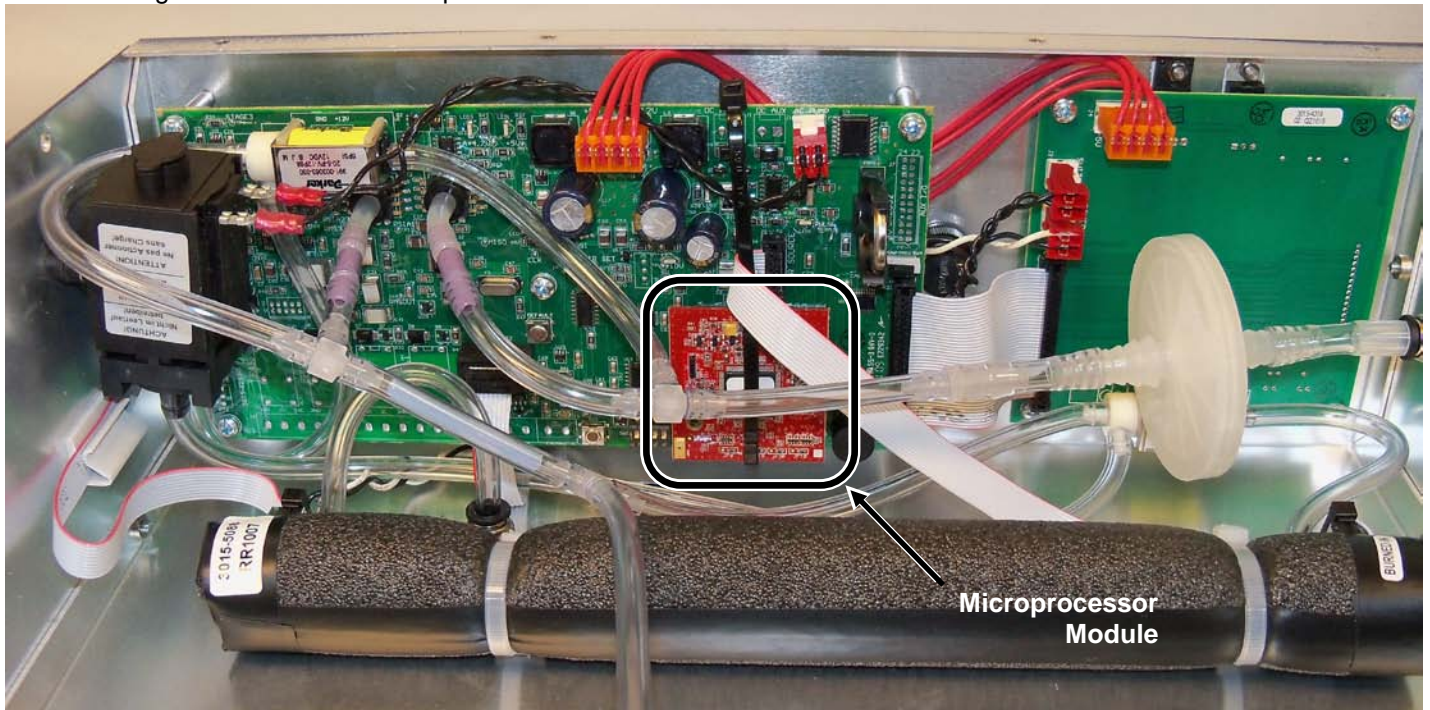

Figure 2. Location of Microprocessor Module Inside the PAGM Housing
2. Locate the red microprocessor module, socketed on the bottom right side of the main circuit board. A cable tie surrounds the main board and the microprocessor module to secure it. Refer to Figure 2. Carefully cut the wire tie to gain access to the microprocessor board.